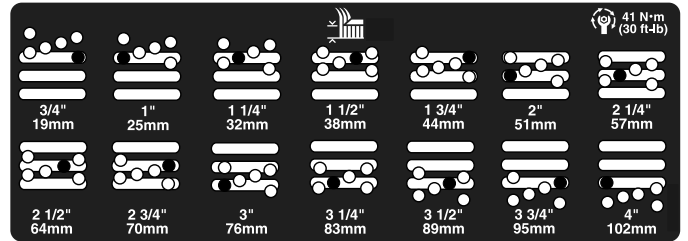

Figure 22
5. Move the chamber to the desired height of cut and install a spacer into the designated height-of-cut hole and slot (Figure 22).